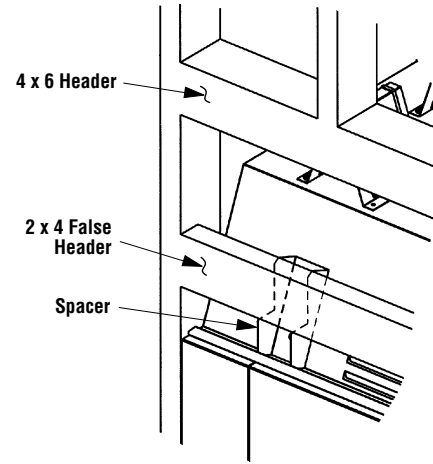

Figure 10
**Step 3.** Refer to fireplace drawings and specifications on pages 7 and 8 for framing dimensions and details. False header may be positioned directly on top of the fireplace spacers (see Figures 10, 11 and 12).
**IMPORTANT: UNDER NO CIRCUMSTANCES CAN THE FIREPLACE TOP SPACERS (FIGURE 10) BE REMOVED OR MODIFIED, NOR MAY YOU NOTCH THE HEADER TO FIT AROUND OR BE INSTALLED LOWER THAN THE SPACERS. THE HEADER MAY BE IN DIRECT CONTACT WITH THE TOP SPACERS BUT MAY NOT BE SUPPORTED BY THEM.**